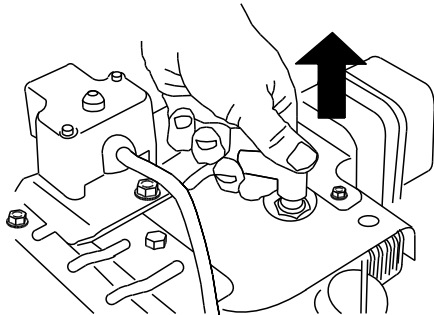

Figure 39
3. Disconnect the spark plug wire (Figure 39).